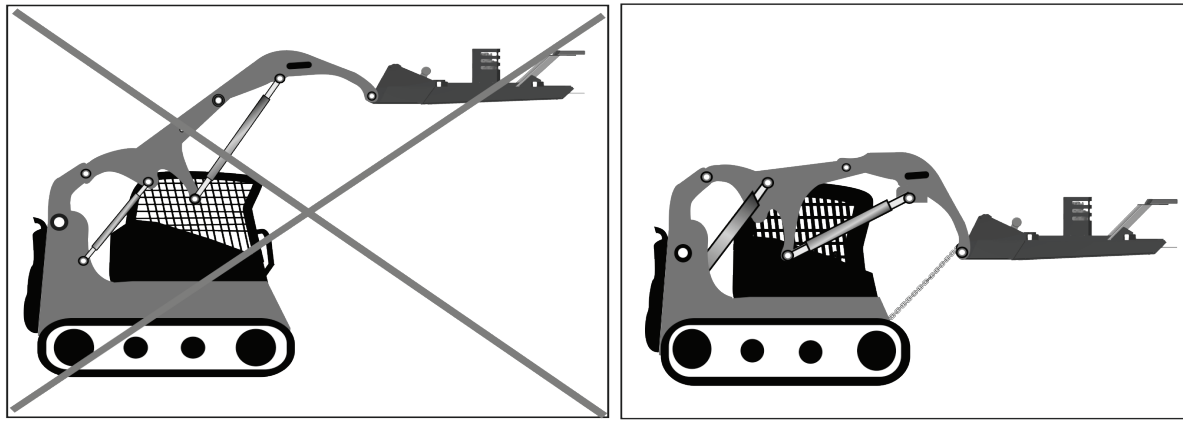

FIGURE 3.1C - SAFETY CHAIN
6. Attach the safety chain so the cutter deck is below eye level of the operator while seated in the operator's seat. You should not be able to see the blades while seated in the operator's seat. See figure 3.1c below.